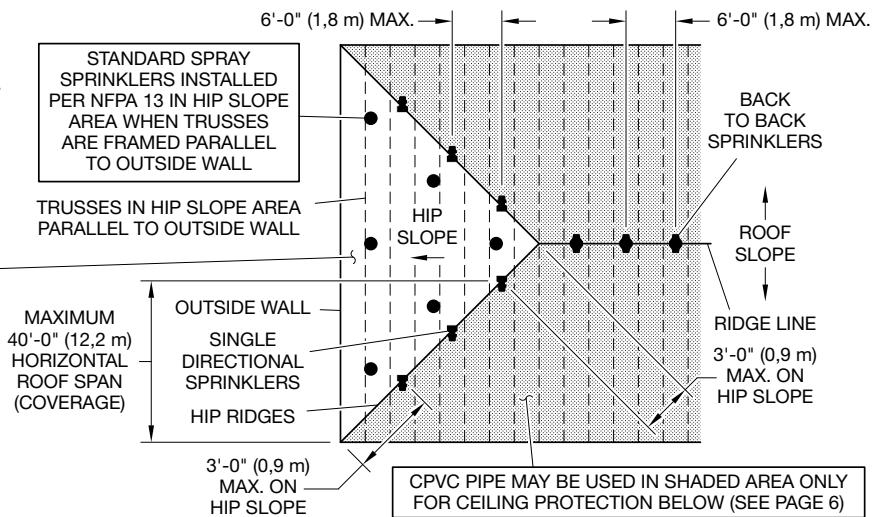

**FIGURE 12
- Verify the framing direction is perpendicular to the outside wall (refer to Figure 12). If not, cover that area with AP Sprinklers or Standard Spray Sprinklers (refer Figure 13).
- Verify framing direction is perpendicular to outside wall (refer to Figure 12). If not, cover that area with AP Sprinklers or Standard Spray Sprinklers (refer to Figure 13).